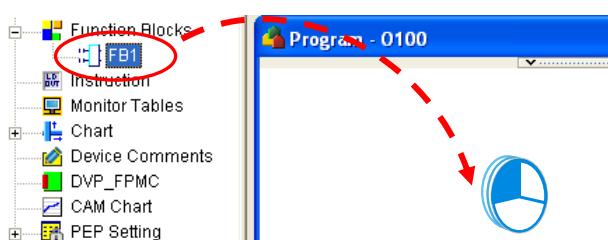

Figure 12-29 Dragging a function block definition
(1) The users have to press the left mouse button while the mouse cursor hovers over a function block definition. They have to move the mouse cursor to a position in the program editing area while holding the left mouse button down. The **Add Symbol** window will appear after the users release the left mouse button. Please see figure 12-29.